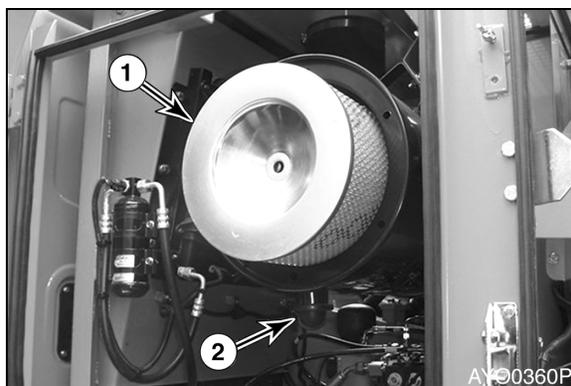

Figure 43
1. Locate the air filter assembly. Remove the access cover and remove the outer element (1, Figure 43) of the air filter assembly.
2. Remove and clean rubber evacuator valve (2, Figure 43) from bottom of air cleaner housing. Inspect seal lips for wear or damage. Replace valve if necessary.